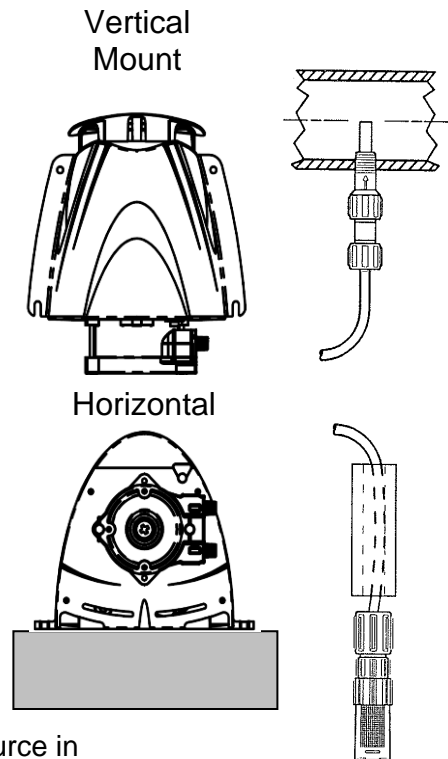

Figure 2: Injector Placement
1) The pump can be installed either vertically or horizontally (See Figure 2). Make sure to secure the pump on a flat level surface that will support 50-lbs (22kg) and secure with four .25-in (6mm) screws in the holes provided. The guard snaps into the back of the pump via three tangs -- see Figure 1. The pump should be mounted with no less than 1.75-in (44mm) of clearance around the venting on both the front and the rear of the pump. Locate the pump so there is direct access to the power cord plug.
3) Relieve the system pressure and drain the piping run where the injection fitting is to be installed. See Figure 2 for reference. **The injection fitting must not be installed in a dead end pipe or a deeply recessed tee. It should be installed so as to place the tip at the center of the fluid stream as indicated in Figure 2.** The injection fitting is supplied with .25-in NPT threads. If necessary drill a .44-in (11mm) diameter hole and using care not to tap too deeply, tap for .25-in NPT.